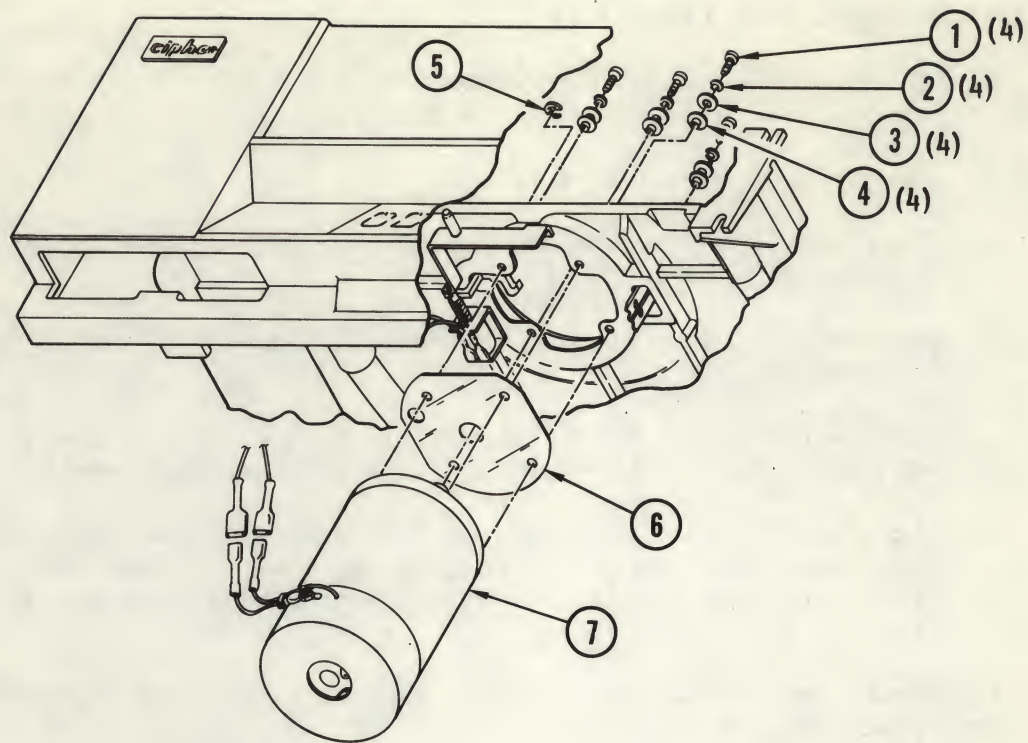

Figure 4-28. Supply Motor Assembly
4-44. **Removal and Replacement (Figure 4-28).** Place transport in service access position, in accordance with instructions in paragraph 4-3, and remove and replace the supply motor assembly as follows:
- d. Remove bell crank retaining ring (5, Figure 4-28).
- e. Remove screw (1) lockwasher (2), flatwasher (3), shoulderwasher (4), and insulator (6), holding motor (7) as last screw is being removed.
- f. Lower motor (7) from top plate, simultaneously slipping bellcrank off post on top of motor.